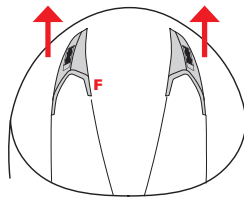

FIGURE 3
- Figure 3: Slide the cursors backwards to completely open the air intake